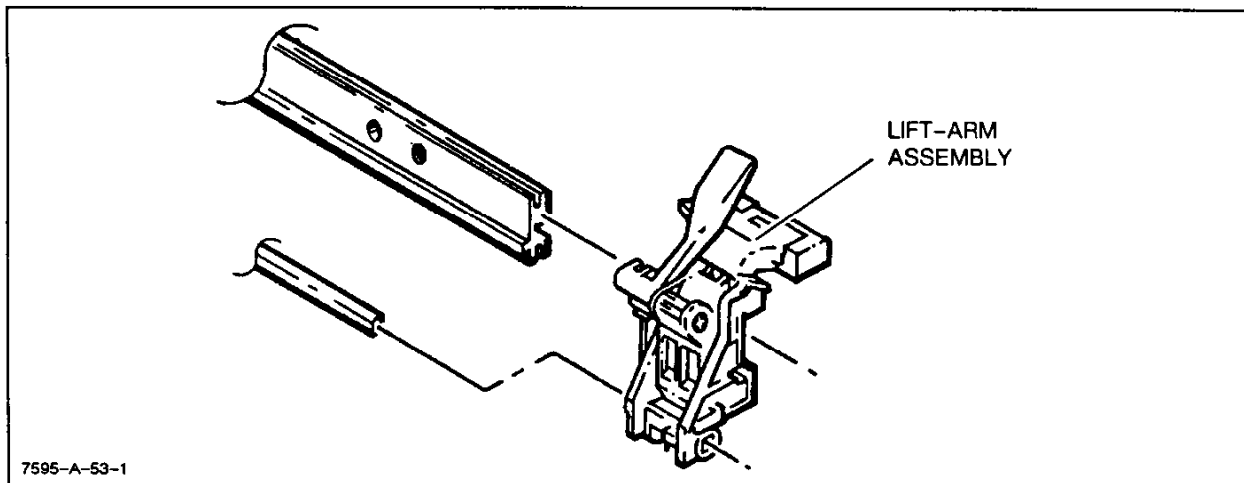

Figure 6-33. Lift Arm Removal
- f. The right lift arm assembly can now slide off of the pinch wheel bridge assembly. See Figure 6-33.